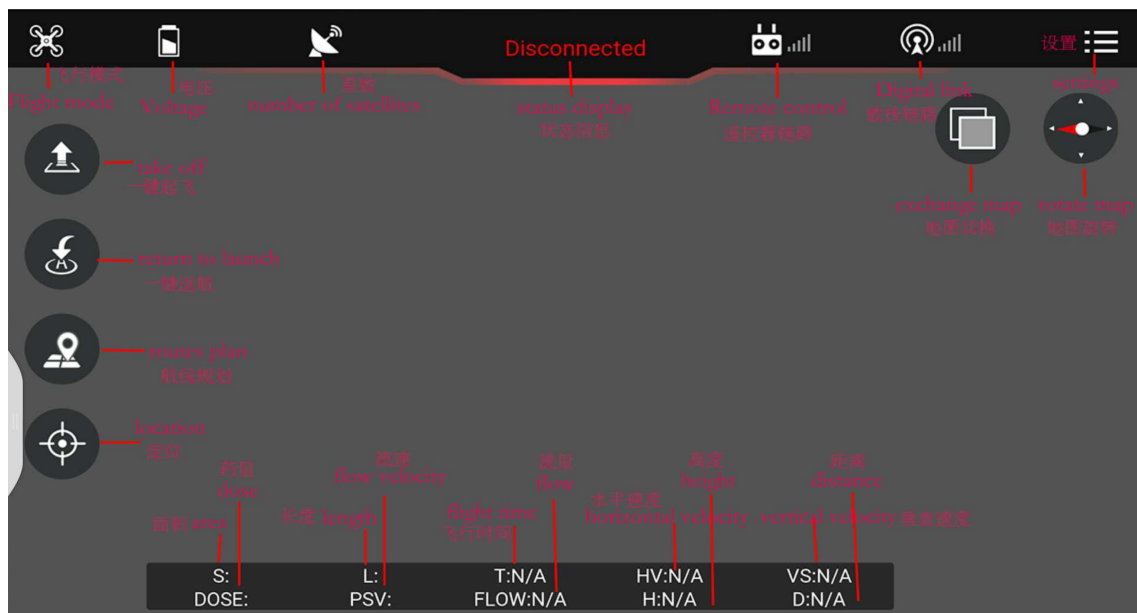

Figure 5-2
4. Enter into the main page ,see figure 5-2.